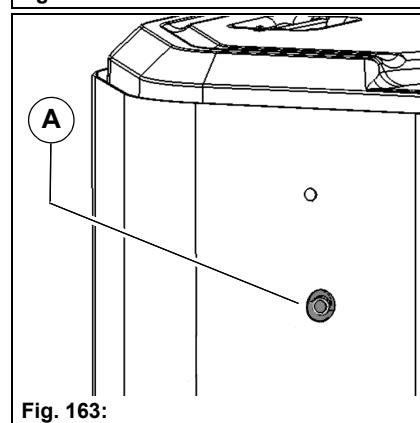

Fig. 163:
2. Connect a water hose to the water connection **Fig. 163-A** of the dirt hopper.